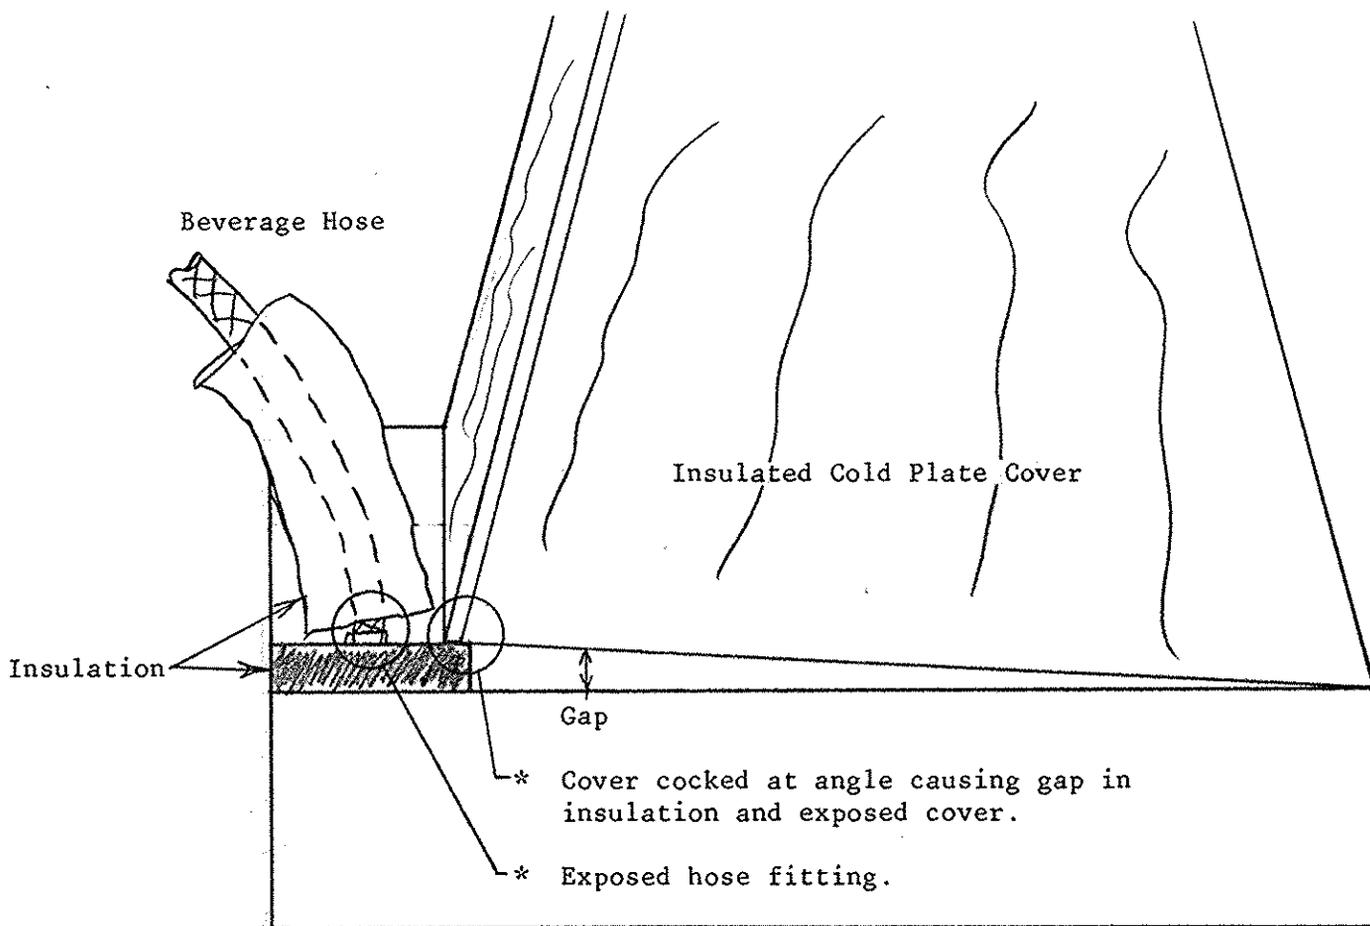

Fig. 1 - Front view of cold plate assy.
1. Remove lower front panel from dispenser. Observe cold plate assembly for possible problem areas indicated in Fig. 1. Note - If a bead of RTV sealant was used across the front of the cold plate cover, remove this sealant in order to remove cover.